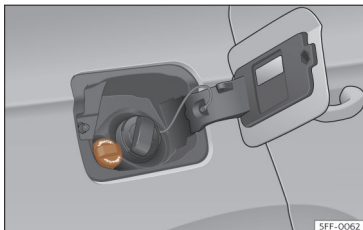

Fig. 210 AdBlue tank cap®.
- Open the tank cover >>> Fig. 210.
- Turn the SCR tank cap anti-clockwise >>> Fig. 210.